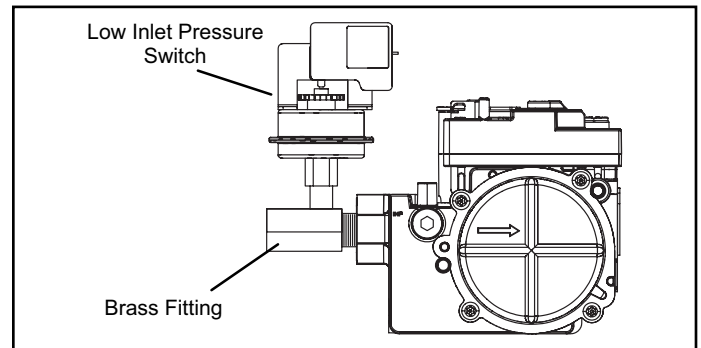

Figure 6. Gas Valve with Low Inlet Pressure Switch
9. Thread provided brass fitting to gas valve inlet until hand tight. Using properly sized wrench, tighten fitting 2 to 3 full turns being careful to position the side port to allow clearance for the pressure switch and harness. See Figure 6.
NOTE: Some installations may require the pressure switch and fitting assembly to be positioned differently than shown in Figure 6.